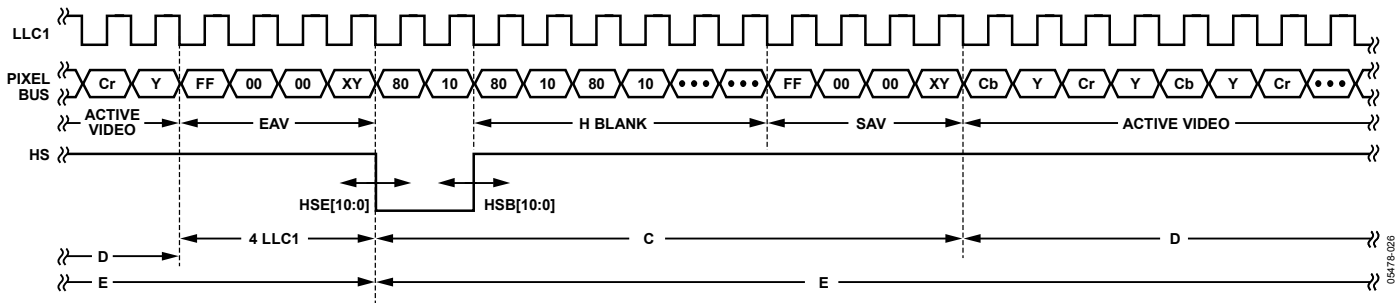

Figure 26. HS Timing
The position of this edge is controlled by placing a binary number into HSB [10:0]. The number applied offsets the edge with respect to an internal counter that is reset to 0 immediately after EAV Code FF, 00, 00, XY (see Figure 26). HSB [10:0] is set to 0000000010, which is two LLC1 clock cycles from Count [0].
**Table 61. HS Timing Parameters (see Figure 26)**
The position of this edge is controlled by placing a binary number into HSE [10:0]. The number applied offsets the edge with respect to an internal counter that is reset to 0 immediately after EAV Code FF, 00, 00, XY (see Figure 26). HSE is set to 0000000000, which is 0 LLC1 clock cycles from Count [0].